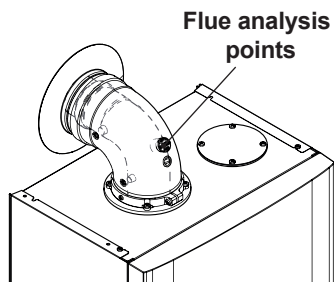

Fig. 10.14
It is compulsory to conduct a combustion analysis. Remove the plug as indicated in Fig. 10.14 and carry out combustion analysis check and adjustment if necessary as described in the section "Gas valve - Adjustment - Chimney Sweep Mode" of the Service manual.
- Check the combustion of the boiler using the outlets located on the flue tubes (Fig. 10.14) and compare the data measured with that following.